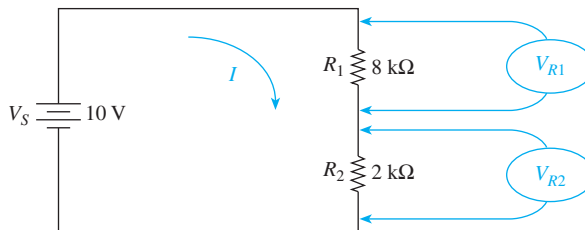

Figure F-3 A series circuit used to derive the voltage divider equation.
Find the current in the circuit (I), the voltage across R_1 (V_{R1}), and the voltage across R_2 (V_{R2}) in Figure F-3.
F-3. In a series voltage-divider circuit like Figure F-3, the larger resistor will have the larger voltage across it. True or false?
- F-4.** In Figure F-3, if R_1 is changed to $8\text{ M}\Omega$ and R_2 is changed to $2\ \Omega$, V_{R2} will be close to _____ (0 V/10 V).